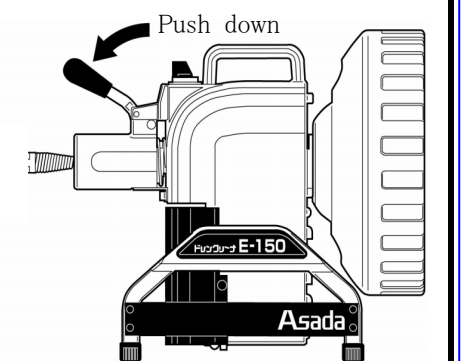
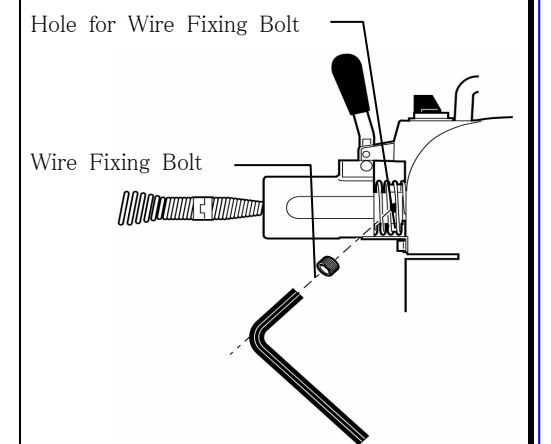

Fig.2
Fig.3
②Insert Wire to the pipe slowly and when Head reaches the blockage or Head cannot be inserted due to an acute bend of the pipe, push down Chuck Knob to hold Wire.(Fig.2)
③Switch on the machine to rotate Wire and pass through it. Normally turn the switch to 1.(Turn the switch to 2 when Bulb Head Wire is used.)
④In case of heavy blockage, repeat to move Wire for and backward with rotating wire clockwise and counterclockwise. Do not change the direction of rotation until the motor stops.
⑤If Wire cannot be held firmly by Chuck Knob, it should be held by the attached Wire Fixing Bolt.(Fig.3)
⑥When finished cleaning the pipe, wash Wire and return it to Wire Case after spraying anticorrosive oil.